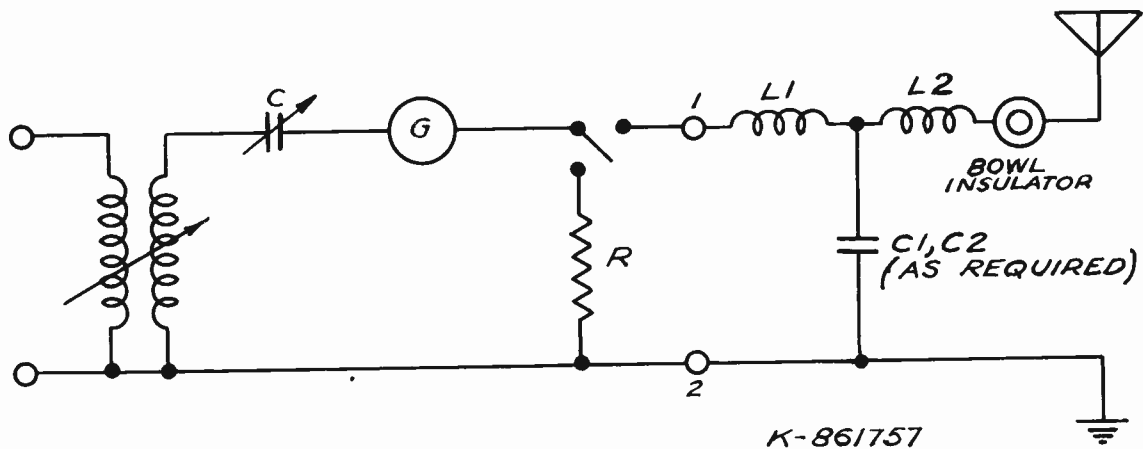

Figure 3—Coupling Circuit and Tuning Unit Network (K-861757)
**TUNING PROCEDURE WITHOUT R-F BRIDGE.** If no impedance bridge is available, a simple substitution method may be used to determine when a proper adjustment has been obtained. To do this, it is necessary to arrange to switch the line from the tuner to a resistance equal to the line impedance, noting the change in line current accompanying the switching. When no change occurs, the tuner is in proper adjustment. Because it is not desirable to apply full power to the test resistor, which will usually have a rating of a relatively few watts, connection should be made to a low power stage in the transmitter during this adjustment. To make the adjustments simple, a coupling circuit and a series tuning capacitor can be used, as shown in Figure 3.